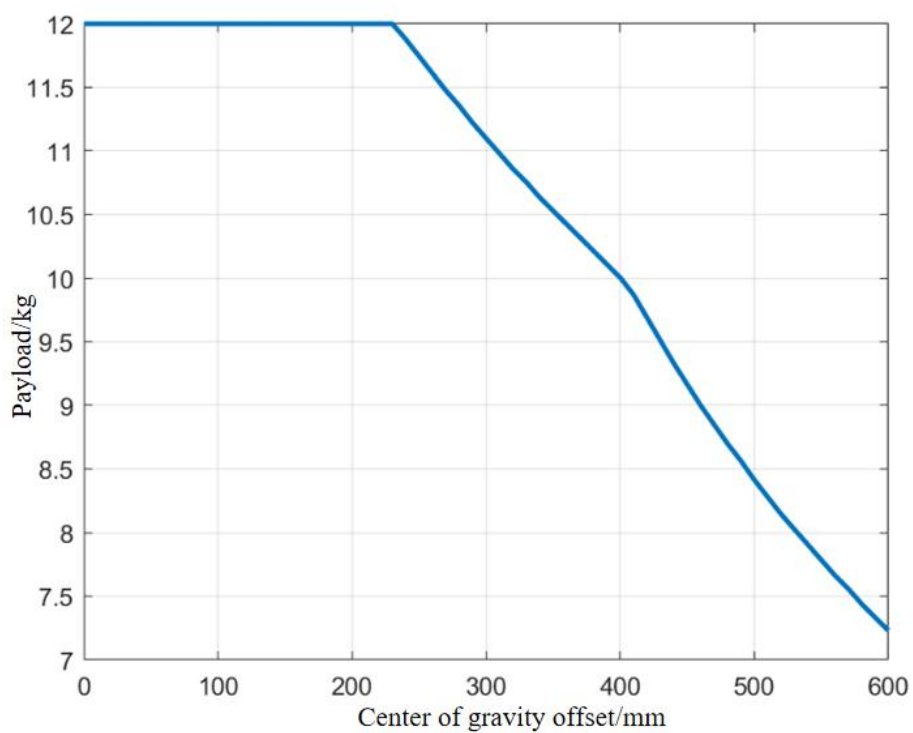

Figure B-7 G12 payload and Center of Gravity Offset curves
- The relationship curve between the payload of the G12 collaborative robot and the payload center of gravity offset is shown in Figure B-7.